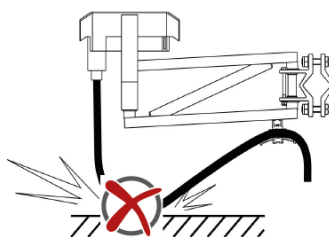
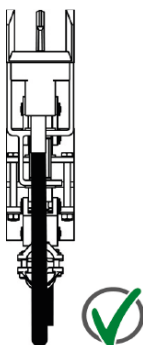

Fig. 112: The connecting cable must not be laying downward
Fig. 118: Connecting cable is not twisted
- Lead the connecting cables straightly and with high flexibility in order to avoid deflection, pulling or pressing on the sliding contacts or movement restrictions of the current collector (see Fig. 112 to Fig. 118).
- Pay attention to the selection of the connecting cable and to a correct and tension-free laying of the connecting cables (see Fig. 112 to Fig. 118).